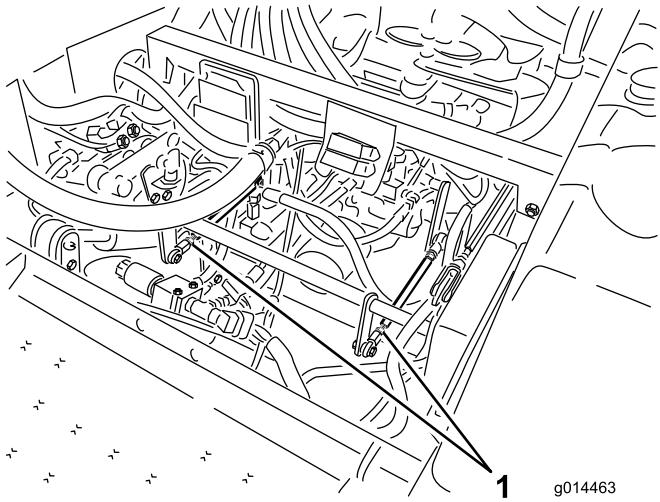

Figure 39
- If the left rear tire is rotating, loosen the jam nuts on the left side transmission control rod (Figure 39).